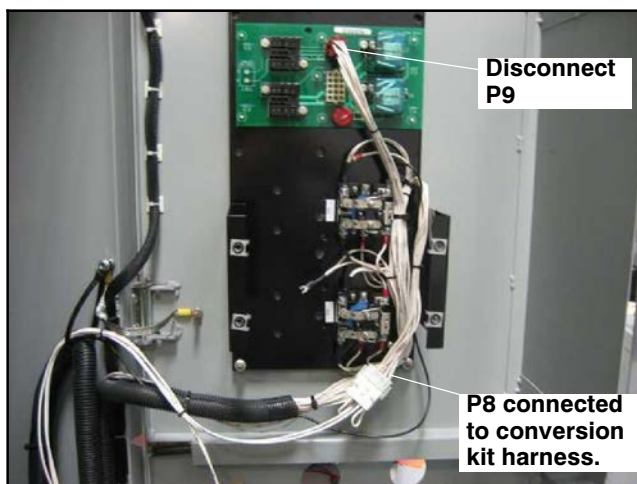

Figure 46 Disconnect P9
41. Disconnect plug P9 from the upper board. See Figure 46. Cut the cable ties to separate the harness from the other wiring and discard the P9 harness. (The other end of this harness was disconnected in step 7.)